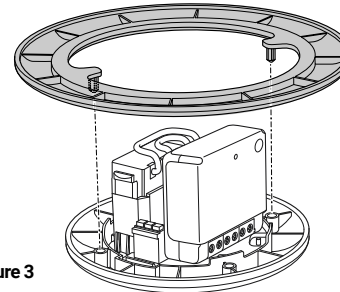

Figure 3
- 4 Assemble 120mm flange if required, see **figure 3**.